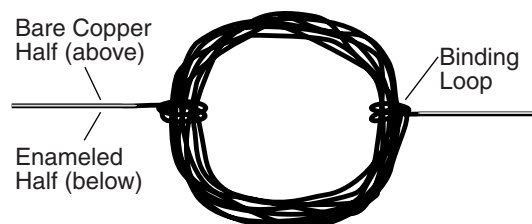

Figure 2. Coil Armature
4. To secure the loop shape permanently, wrap each free end through the loop and around the coil of wire 2 to 3 times. Make sure the binding loops are 180° apart and wrapped tightly around the coil wires. Straighten the free ends so that they are perpendicular to, but in the same plane, as the coil to serve as the axle to the coil armature (see Figure 2).
6. Obtain a small piece of sandpaper. Hold the coil at the edge of a table so the coil is straight up and down and one of the free ends is lying flat on the table. With the sandpaper, sand off the top half of the insulating enamel. Leave the bottom half of the enamel intact. Do the same to the other free end. make sure the shiny bare copper side faces up on both ends (see Figure 2).